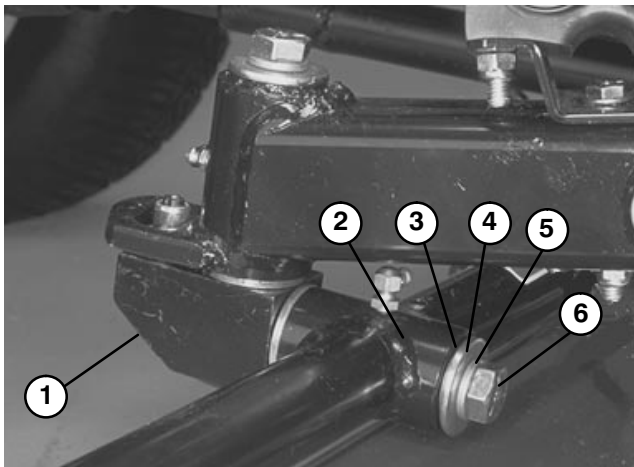

Figure 9
7. Align the mounting shaft of the cutting unit with the pivot tube on the carrier frame. Insert the shaft into the tube (Fig. 9).
8. Secure shaft in pivot tube with a thrust washer, flatwasher, lockwasher and capscrew (Fig. 9).